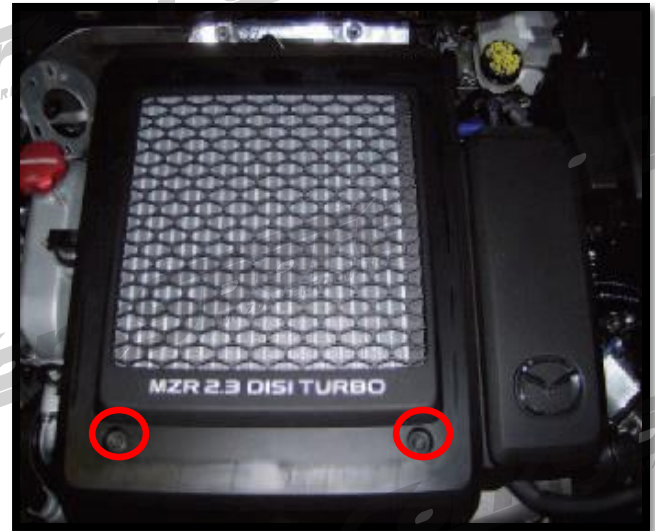

Figure 1a
a) Remove the top mount intercooler cover (TMIC) by removing the two 10mm bolts (Red Circles in Figure 1a).
- l) **Install the intercooler cover**, making sure that the metal bracket under the cover is latched onto the tab in the back of the intercooler tank casting. Lower the front of the intercooler cover and install the two 10mm head bolts hand tight. (Shown in **Figure 1a**)